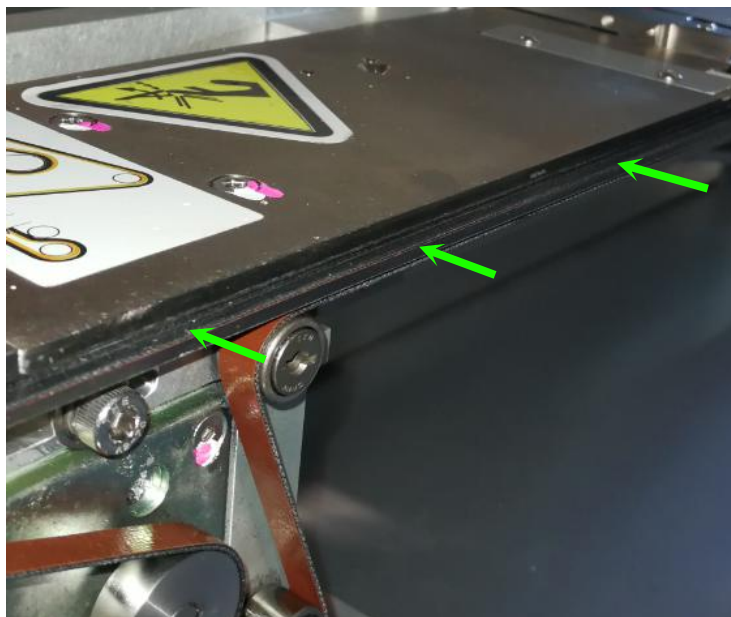

Figure 7
7. Visual Check Conveyor Belt where slot firmly along the track as below Figure 7